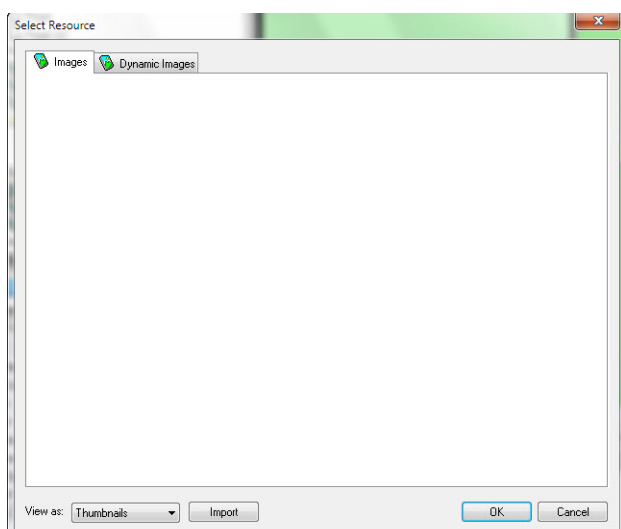

FIG. 130 Edit Dynamic Image window
3. In the *Select Resource* window (FIG. 130), add a new resource. In the example.